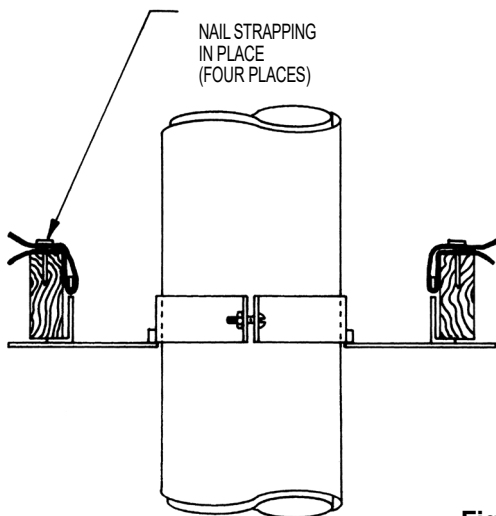
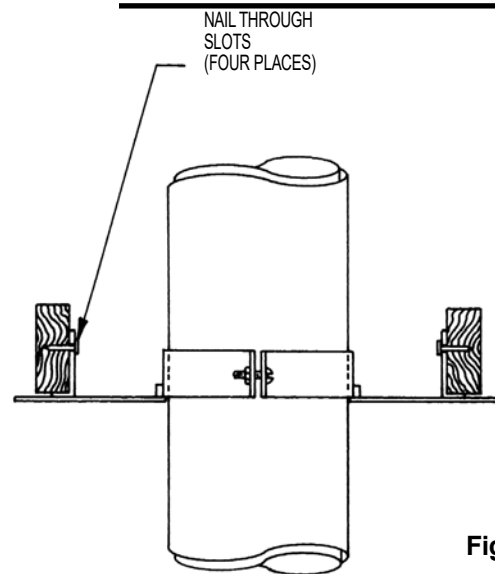
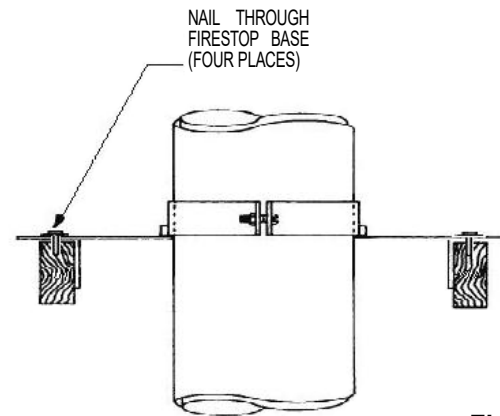

Figure 7
Figure 8
Figure 9
3. Secure Firestop Support (FSP) as shown in **Figure 7**. Install strapping (minimum ¾", 28-gauge) through all four slots in collar, and nail as shown or nail at all four slots as shown in **Figure 8** and **Figure 9**.
Adjustable Length Sections may also be used to compensate for linear thermal expansion between two fixed points in the vent system. Examples of this are shown in **Figures 9 and 14**. In these examples the fastening devices are not used. This allows for expansion between two fixed supports or between a fixed support and the appliance. Note that the fastening means should be left loose only if the Vent and the Adjustable Length Sections are installed vertically. If the Adjustable Length Sections are used in a position other than vertical, such as between offsets, the fastening means should be used. Finally, when joining an Adjustable Length Section to another section of Type B Gas Vent, make sure that there is a minimum overlap of two inches.